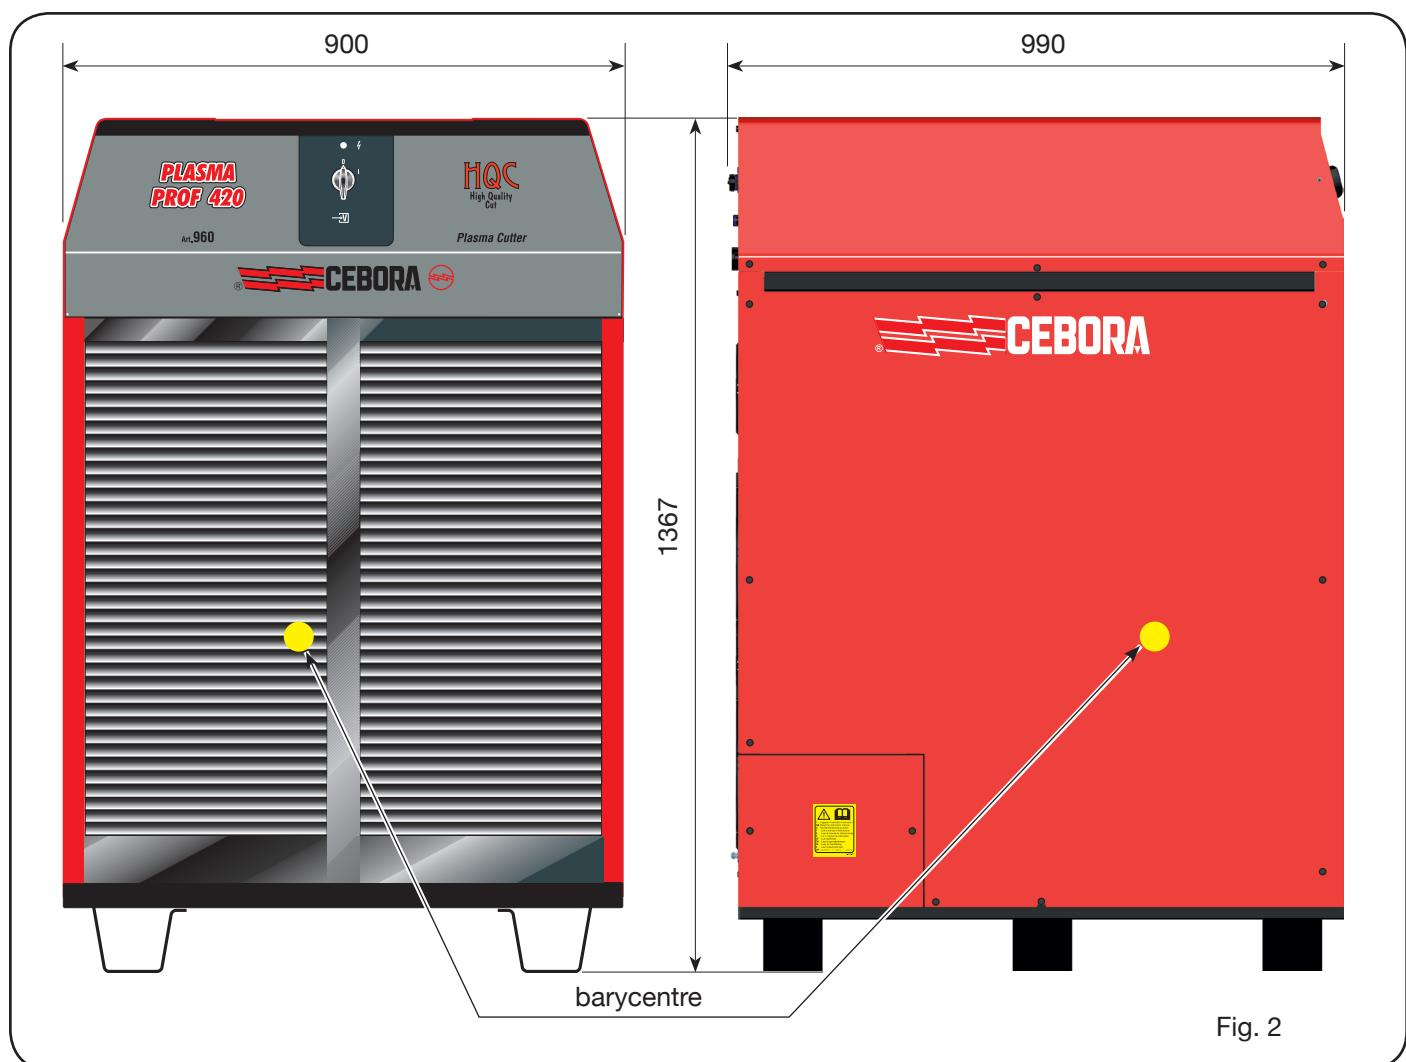

Fig. 2
- lift the power source using a fork-lift truck and position the forks, bearing in mind the position of its centre of gravity (see Fig. 2).